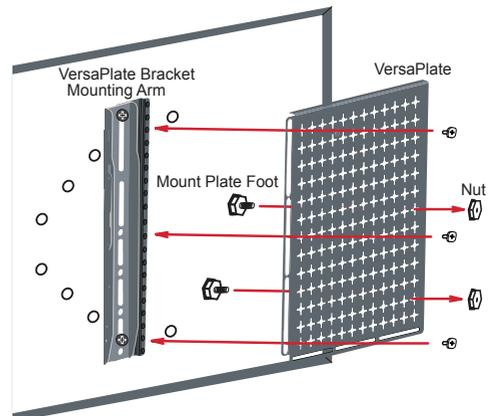

Figure 3
2. Attach the **VersaPlate** to the **VersaPlate bracket** using a hand screwdriver to secure the screws. (Figure 3)